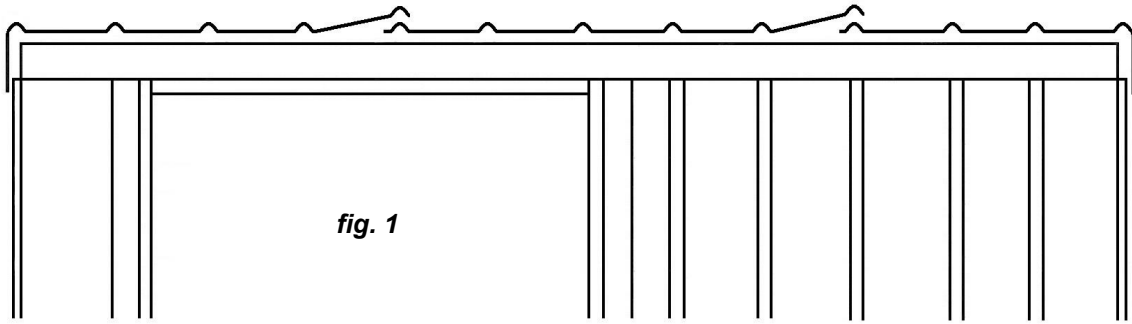

fig. 1
Step 5: Drill a hole through Door Jamb Flashings and Wall Sheets top and bottom. Nail with 50mm nails (**fig. 1**).
Nail left hand Door Jamb Flashing to Stud using three 30mm Clouts at equal spacings (**fig. 1**). Beside each 30mm Clout, rivet Door Jamb Flashing to Rib. Repeat with right hand Door Jamb Flashing.
Standard Roof: Position Roof Sheets as shown in **fig. 1**. Make sure sheet joints at the back are flush. Rivet sheet joints, one rivet 200mm back from edge front and back. Fit two more rivets evenly spaced in centre of each joint.